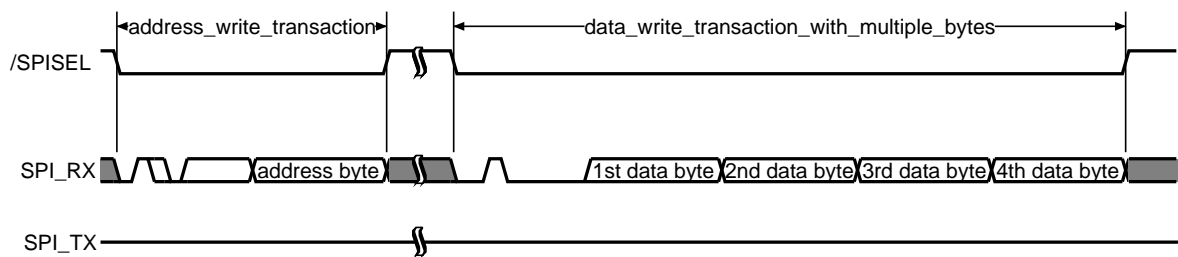

Figure 2.16: Register write access with a 40 bit transaction
3. Another way of writing multiple bytes into the same register is available with the 40 bit write transaction (Figure 2.16). With the first transaction (16 bits) the SPI master specifies the register address (control byte is '01X0CCCC'). Afterwards, four new register values are transferred from the SPI master to XHFC-2SU (control byte is '0010 0000').